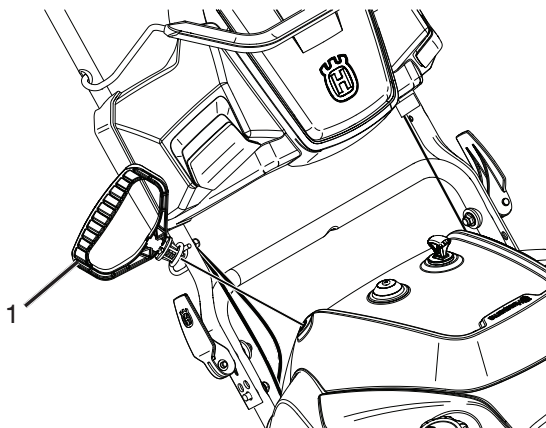
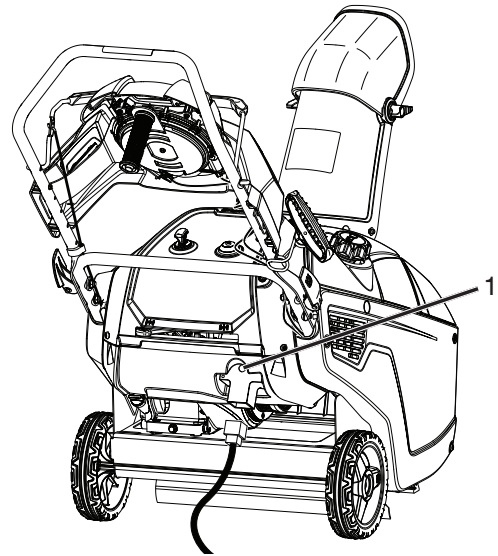

Figure 12
Figure 13
4. Pull the recoil starter (Figure 12) or if your snow thrower is equipped with an electric starter, connect an extension cord to the snow thrower and plug the other end into a three-hole grounded 110 volt A.C. receptacle and push the electric-start button (Figure 13).
6. Unplug the extension cord from the power source and the snowthrower (Figure 13).